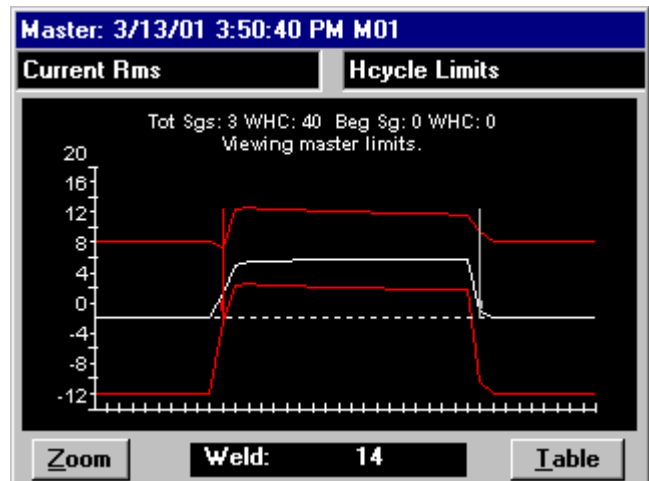

Figure 5-15 Halfcycle Summary, Current Rms shown with Halfcycle Limits
4. Go to the **Halfcycle Summary** Screen to graphically compare the half cycle data with the master tolerance limits. Change the parameter in the top left box to **Current Rms** and the parameter in the top right box to **Hcycle Limits**. Your screen should now look similar to figure 5-15.